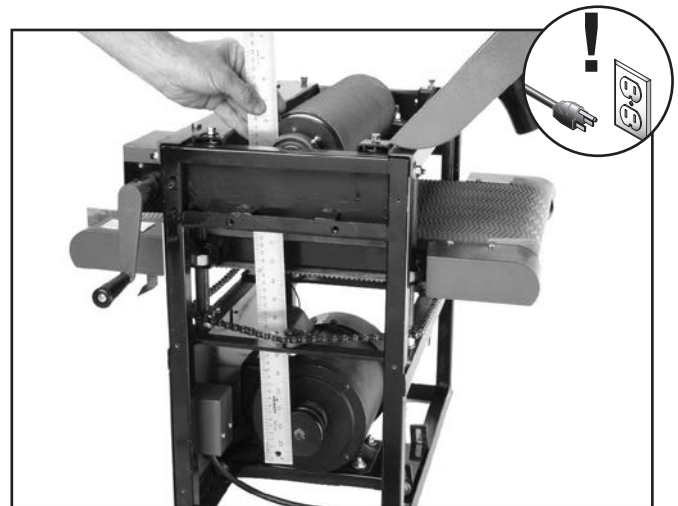

Figure 27. Checking pulley alignment with a straightedge.
4. Place a straightedge across the face of the motor pulley and drum pulley to check the alignment. The straightedge should sit evenly on the top and bottom part of both pulleys, as shown in **Figure 27**.